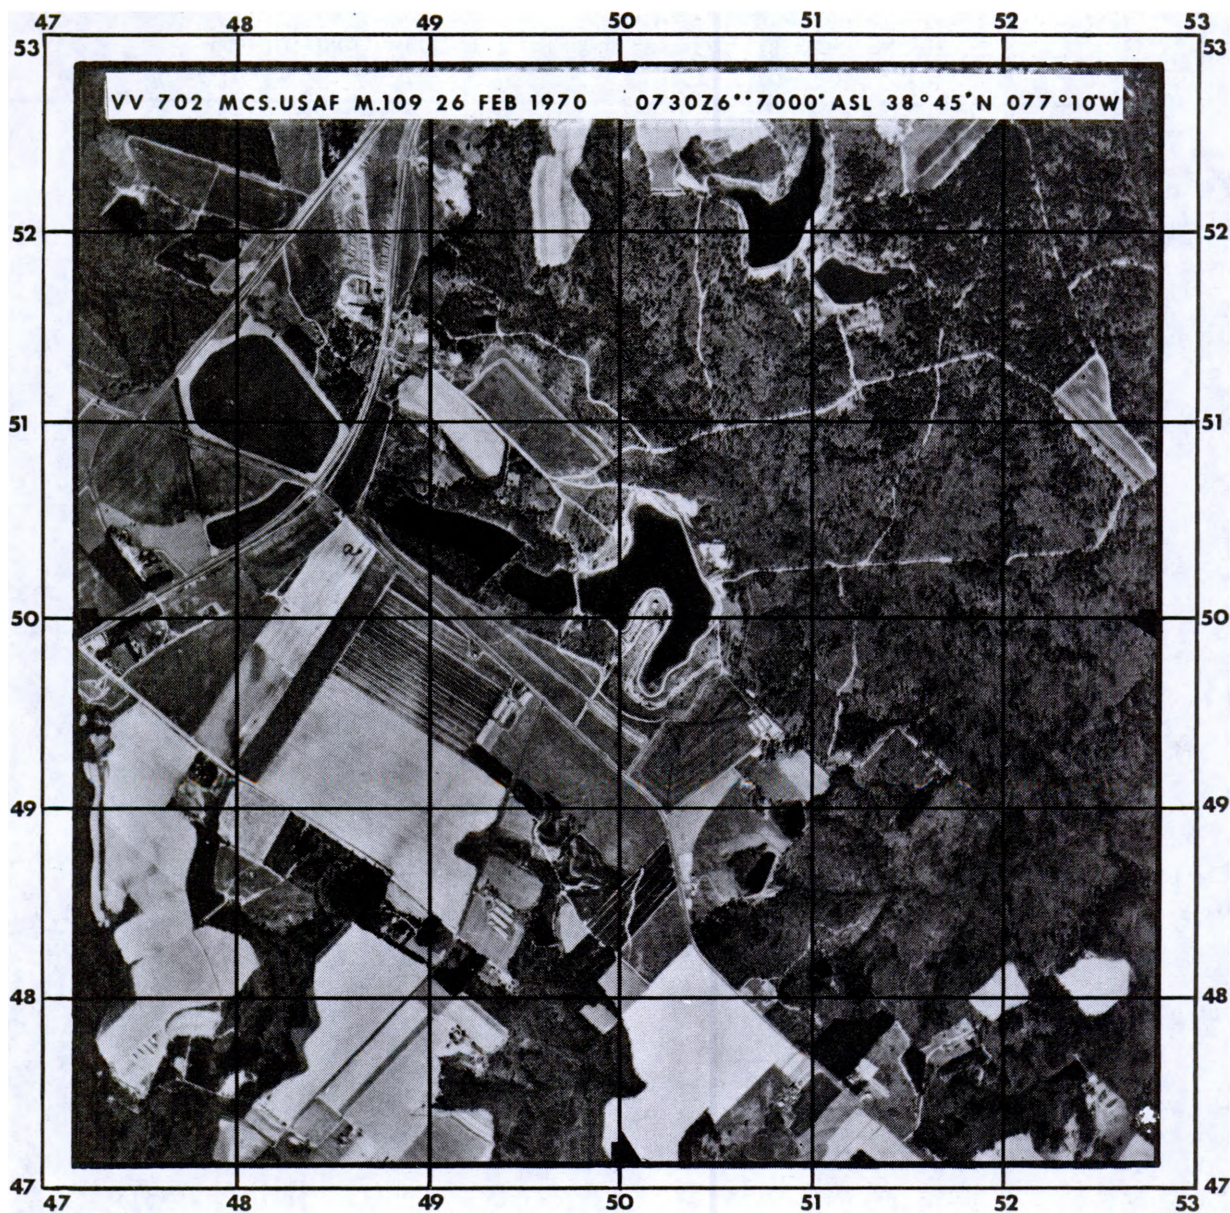

Figure 1
2. Orient the photograph so that the marginal information is in the normal reading position (fig. 1).